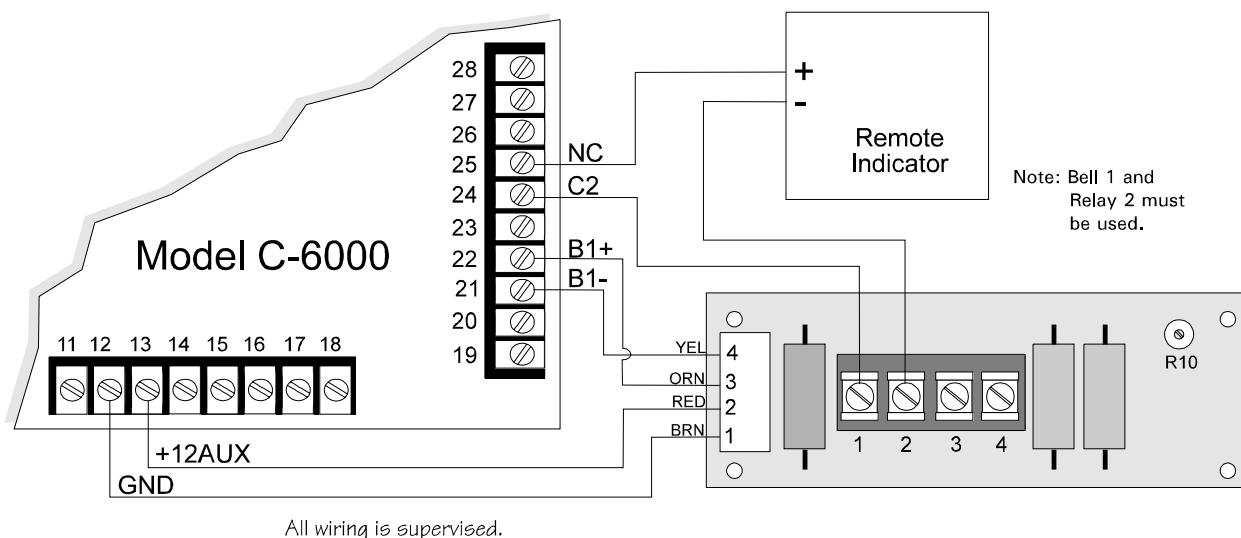

Figure 3-22. Wiring the 5220 for Polarity Reversal
2. Wire the 5220 to the C-6000 using the four-wire pigtail provided as shown in Figure 3-22.